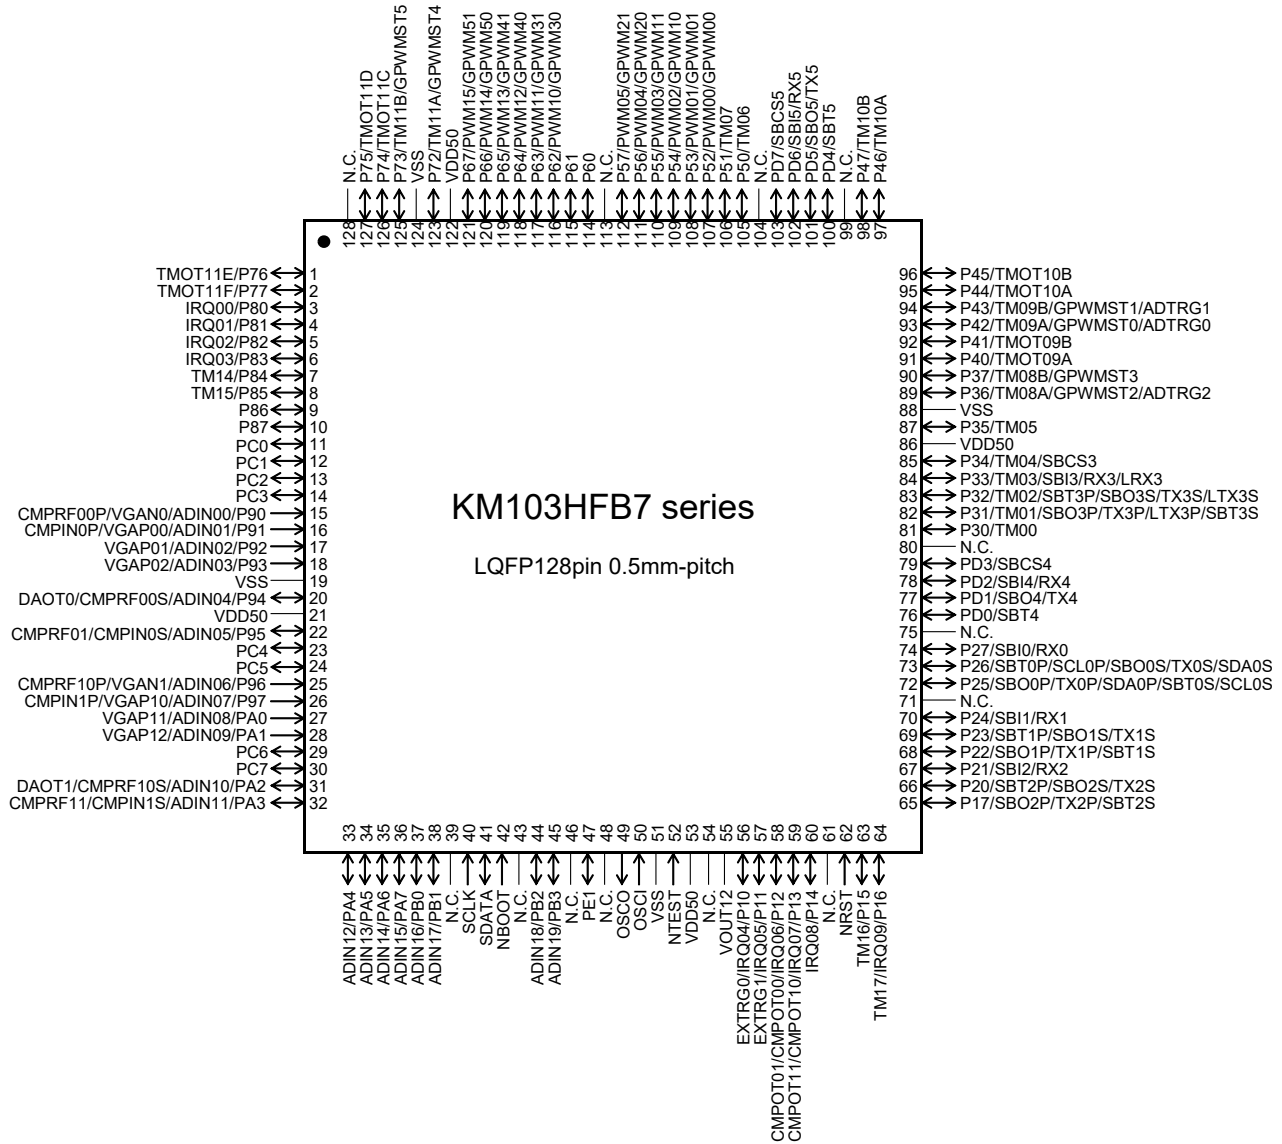

Figure 1.4-1 Pin Configuration Figure of KM103HFB7 Series (128 pins)
- Pin Configuration Figure of KM103HFB7 Series (128 pins) (Figure 1.4-1 )
Figure 1.4-1 shows pin configuration figure of KM103HFB7 series (128 pins).